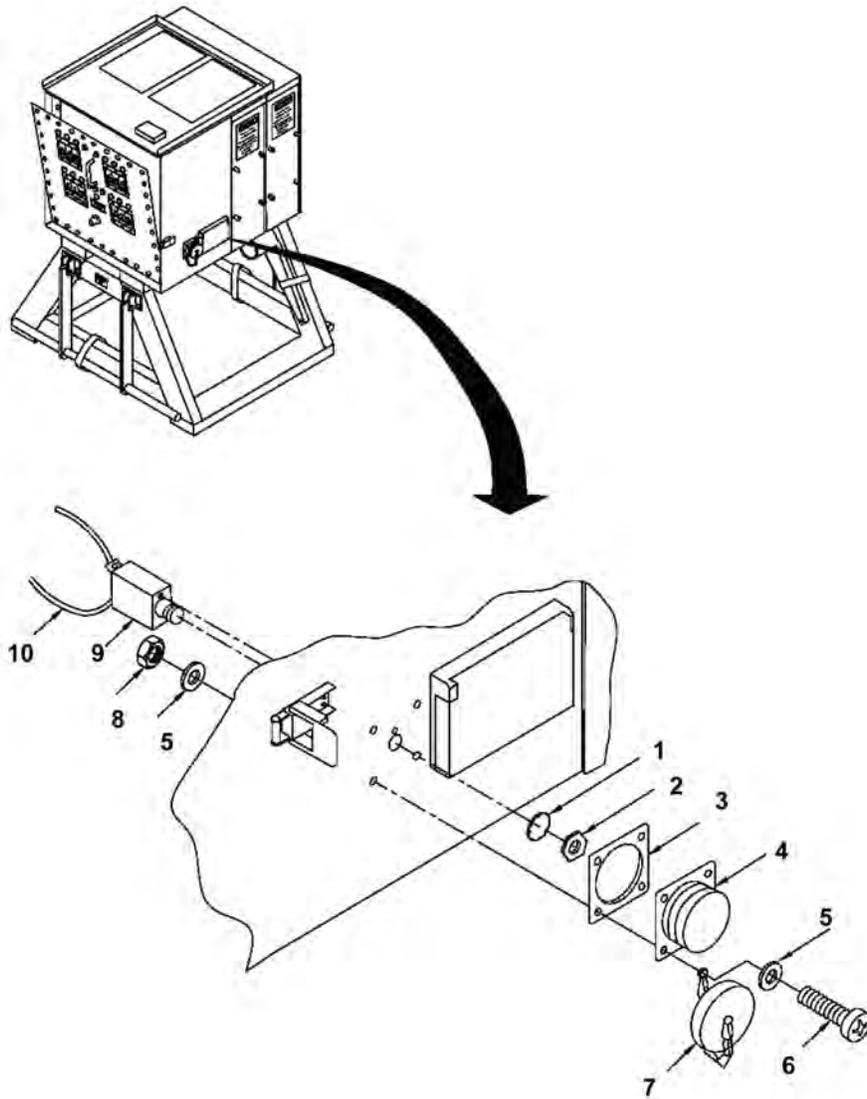

Figure 1. Circuit Breakers CB6 and CB7 (PP-8440A Only).
6. Position circuit breaker (Figure 1, Item 9) through inside of box. Secure circuit breaker (Figure 1, Item 9) to side panel by installing locking star washer (Figure 1, Item 1) and nut (Figure 1, Item 2).
7. Connect two wires (Figure 1, Item 10) to rear circuit breaker (Figure 1, Item 9) and secure wires. Remove tags from wires.
8. Install circuit breaker weather cover (Figure 1, Item 4) and gasket (Figure 1, Item 3) by installing four screws (Figure 1, Item 6), eight flat washers (Figure 1, Item 5) and four locknuts (Figure 1, Item 8).
9. Secure protective cap (Figure 1, Item 7) on cover by turning clockwise.